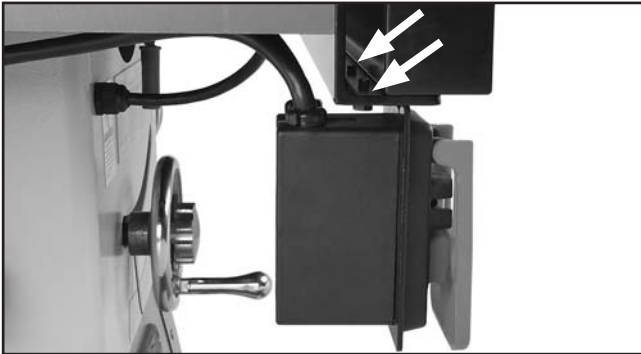

Figure 25. Switch attached to rails.
26. Attach the switch to the front rail with two M6-1 x 12 hex bolts (Figure 25).